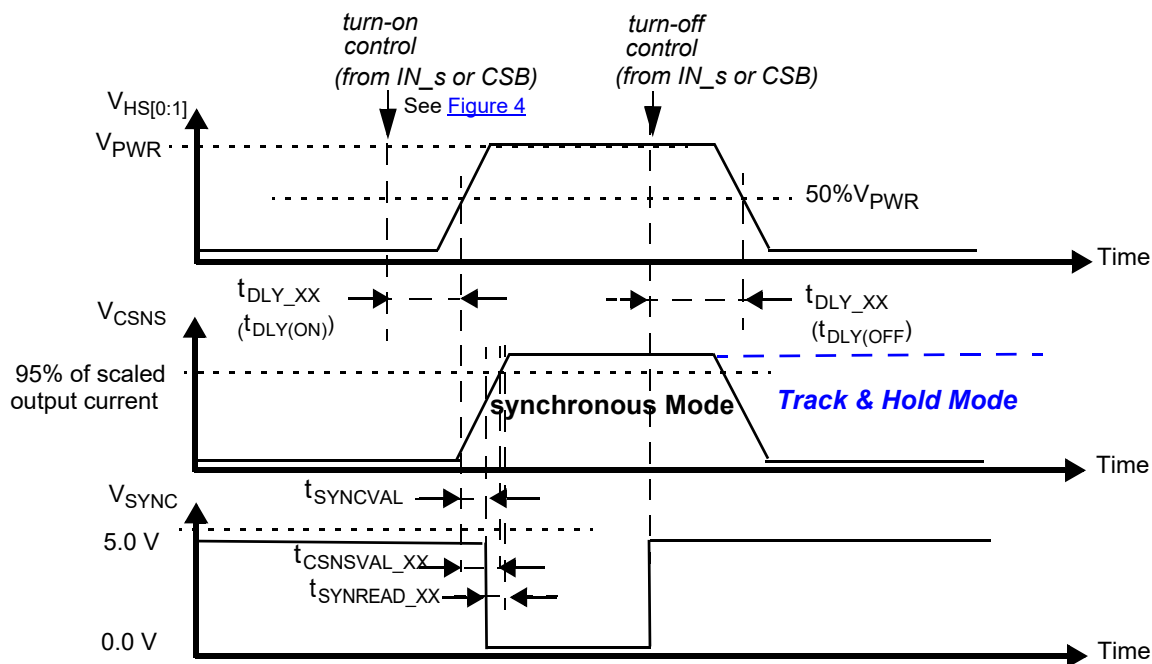

Figure 9. Synchronous and Track & Hold current sensing modes: associated delay and settling time
29. Time required to switch off the channel after detection of overtemperature (OT), overcurrent (OC), SC or UV error (time measured between start of the negative edge on the FSB pin and the falling edge on the output voltage until  $V(\text{HS}[0:1]) = 50\%$  of  $V_{PWR}$ ).
30. Settling time ( $= t_{\text{CSNSVAL\_XX}}$ ), SYNC output signal delay ( $= t_{\text{SYNCVAL\_XX}}$ ) and Read-out delay ( $= t_{\text{SYNREAD\_XX}}$ ) are defined for a stepped load current ( $100\text{ mA} < I(\text{LOAD}) < \text{IOCLX A FOR CSNS\_RATIO\_S} = 1$ , AND  $300\text{ mA} < I(\text{LOAD}) < \text{IOCLX A}_0 \text{ FOR CSNS\_RATIO\_S} = 0$ ). (see Figure 9 and Output current monitoring \(CSNS\))
The CS pin allows independent current monitoring of channel 0 or channel 1 up to the steady state overcurrent threshold. It can also be used to sense the device temperature. The different functions are selected by setting bits CSNS1\_en and CSNS0\_en to the appropriate value (Table 23). When the CSNS pin is sensed during switch-off in the (optional) Track & Hold mode (see Figure 9), it outputs the scaled value of the load current as it was just before turn-Off. When several devices share the same pull-down resistor, the CSNS pins of devices the current of which is not monitored must be tri-stated. This is accomplished by setting CSNS0\_en = 0 and CSNS1\_en = 0 in the GCR register (Table 10). Settling time ( $t_{CSNSVAL\_XX}$ ) is defined as the time between the instant at the middle of the output voltage's rising edge ( $HS[0:1] = 50\%$  of  $V_{PWR}$ ), and the instant at which the voltage on the CSNS-pin has settled to  $\pm 5.0\%$  of its final value. Anytime an overcurrent window is active, the CSNS pin is disabled (see Overcurrent detection on resistive and inductive loads). The current and temperature sensing functions are unavailable in Fail-safe mode and in Normal mode when operating without the  $V_{DD}$  supply voltage. In order to generate a voltage output, a pull-down resistor is required ( $R(CSNS)=1.0\text{ k}\Omega$  typ. and  $470 < R(CSNS) < 10\text{ k}$ ). When the current sense resistor connected to the CSNS pin is disconnected, the CSNS voltage is clamped to  $V_{CL(CSNS)}$ . The CSNS pin can source currents up to about 5.6 mA.
To synchronize current sensing with an external process, the SYNC signal can be connected to a digital input of an external MCU. SYNC is asserted logic low when the current sense signal is accurate and ready to be read. The current sense signal on the CSNS pin has the specified accuracy  $t_{SYNCREAD\_XX}$  seconds after the falling edge on the SYNC pin (Figure 9) and remains valid until a rising edge is generated. The rising edge that is generated by the SYNC pin at the turn-OFF instant (internal or external) may also be used to implement synchronization with the external MCU. Parameter  $t_{SYNCVAL\_XX}$  is defined as the time between the instant at the middle of the output-voltage rising edge ( $HS[0:1] = 50\%$  of  $V_{PWR}$ ), and the instant at which the voltage on the SYNC-pin drops below 0.4 V ( $V_{SOL}$ ). The SYNC pins of different devices can be connected together to save  $\mu$ -controller input channels. However, in this configuration, the CSNS function of only one device should be active at a time. Otherwise, the MCU does not determine the origin of the SYNC signal. The SYNC pin is open drain and requires an external pull-up resistor to VDD.